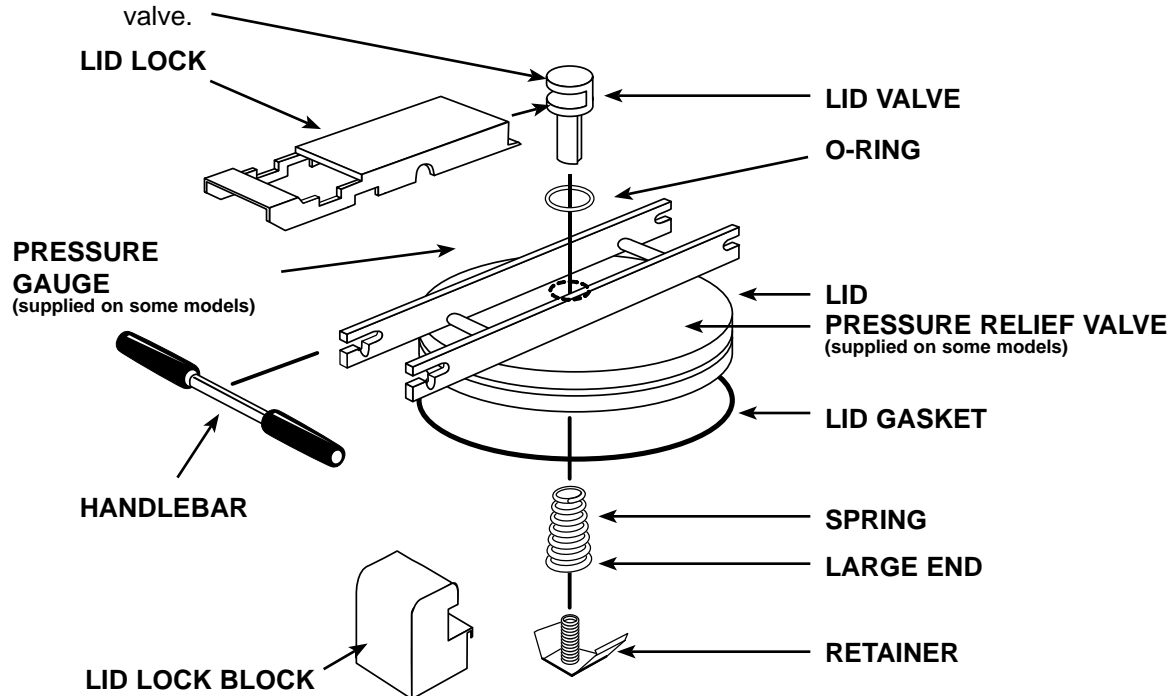

FIGURE 27
1. Remove lid from fryer and disassemble components as shown in Figure 27 below. Remove the retainer from the lid valve before removing the lid lock and handlebar (the lid lock will help to hold the lid valve while unscrewing the retainer).